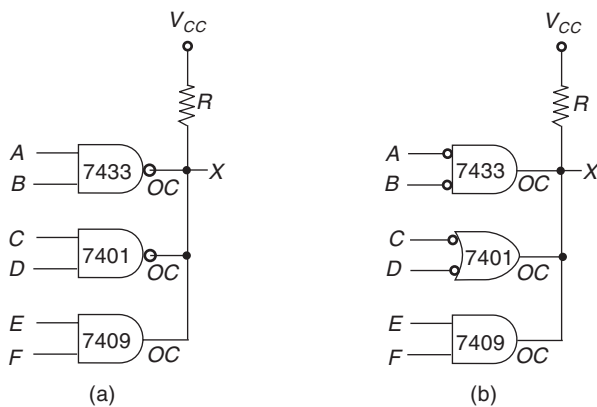

Fig. 9.30 *Wired-ANDing of Open-collector Gates (a) Original Circuit, (b) Alternative Gate representations used for Clarity.*
9.31 Write the Boolean equation at the output of Fig. 9.30(a).
The outputs of all three gates in either circuit must be floating in order to get a HIGH output at X. Using Fig. 9.30(b)